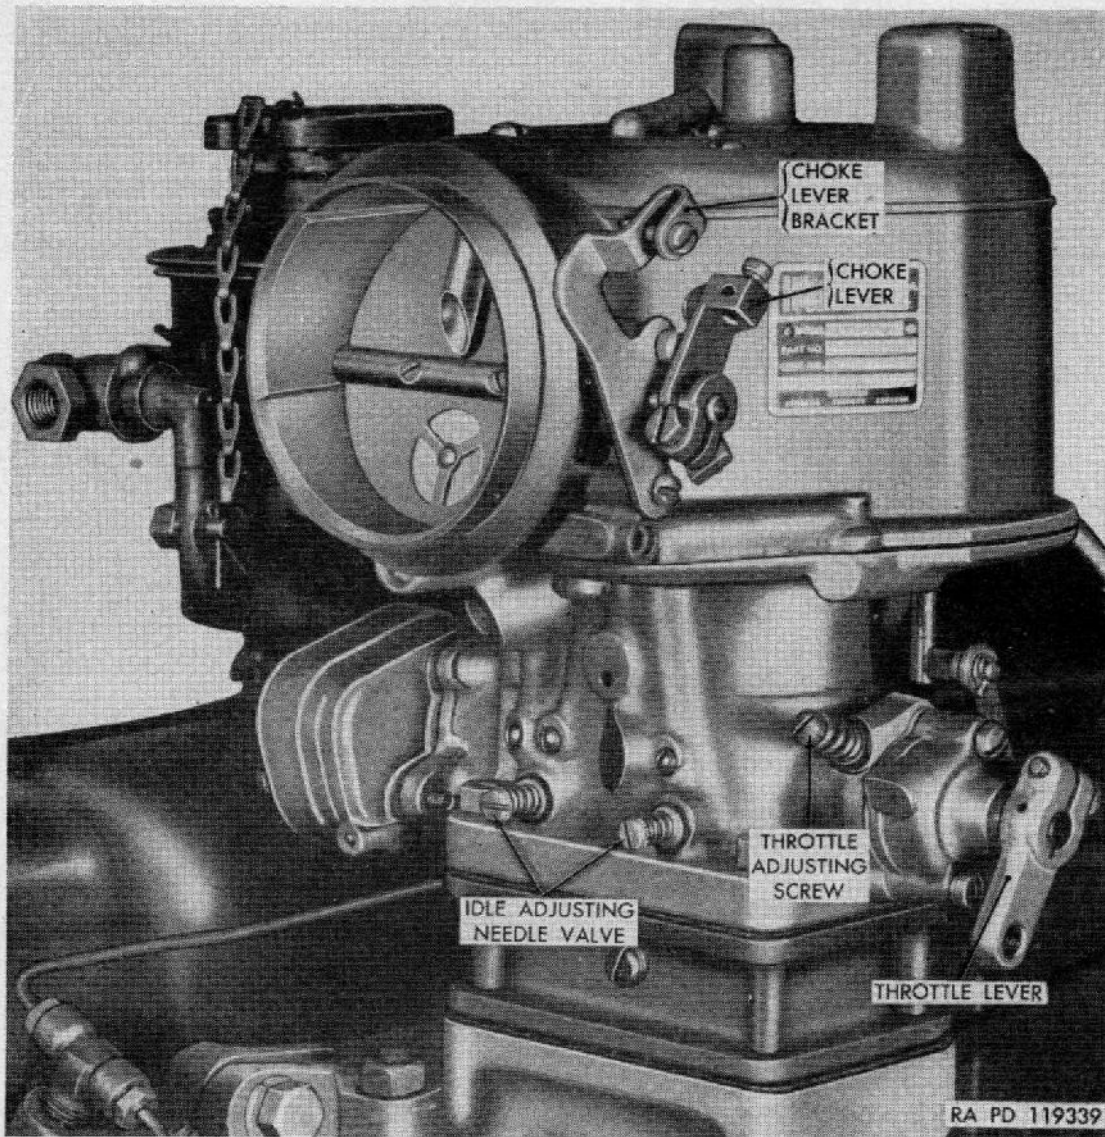
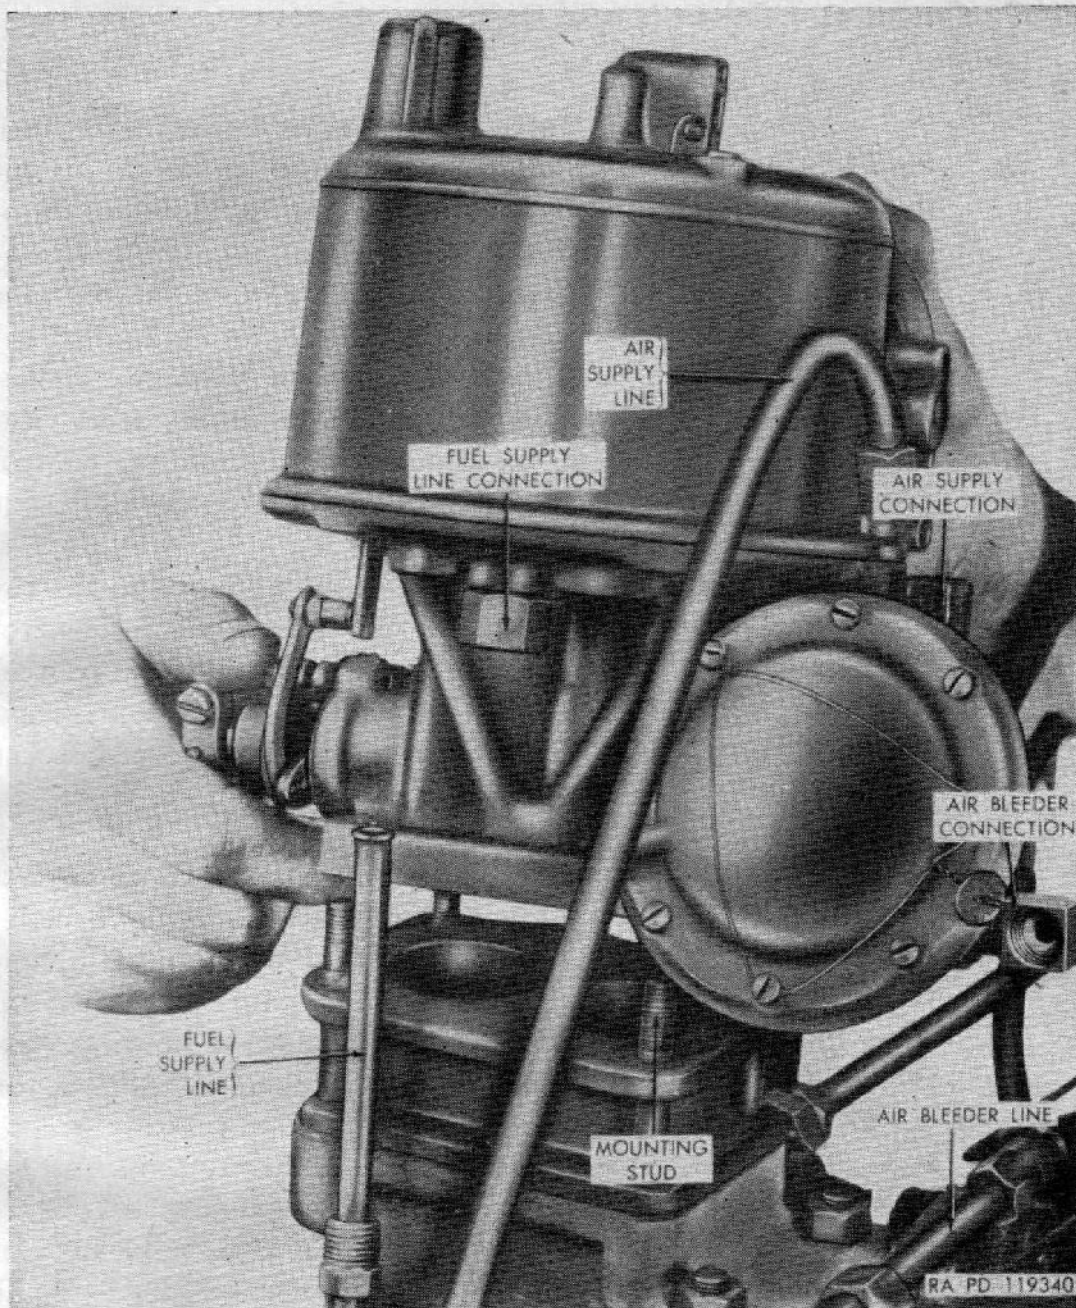
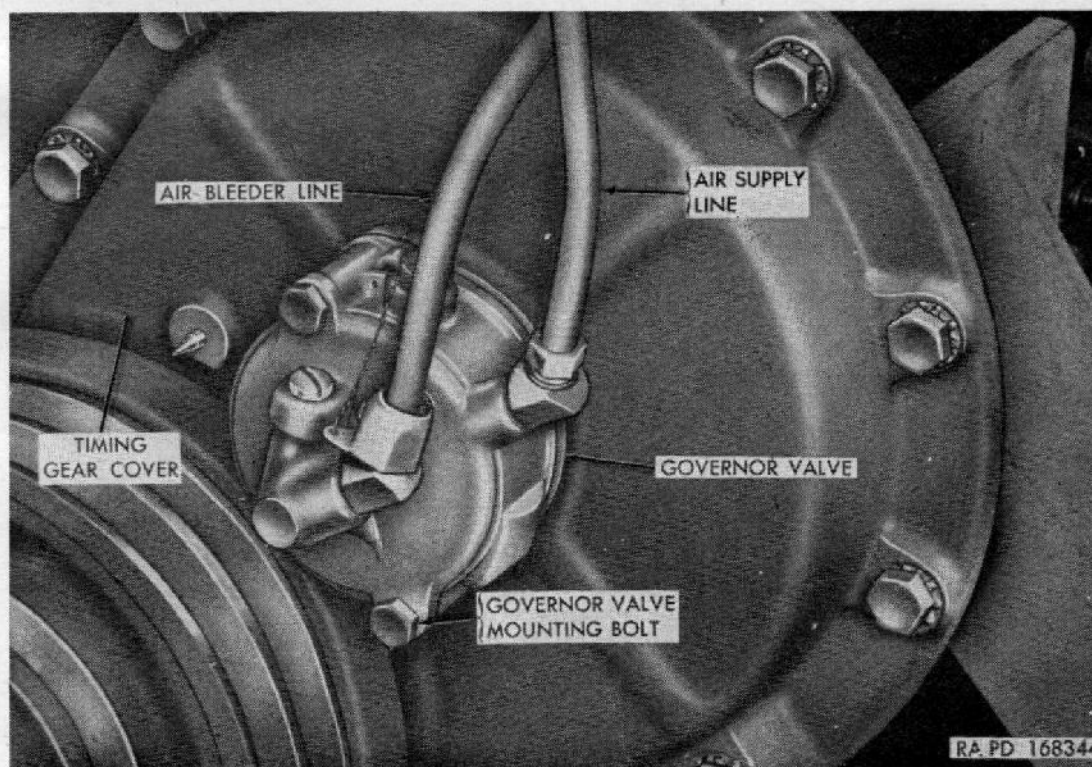

Figure 55. Carburetor idle adjustments.
Figure 56. Removing carburetor
Figure 57. Carburetor governor valve.
- (3) *Carburetor.* A double-venturi, down-draft carburetor (fig. 56) is mounted on manifold heat-control valve assembly. This carburetor, with its governor control, is designed to maintain proper fuel mixture under all operating conditions.
- (4) *Carburetor controls and linkage* (fig. 55). Carburetor controls consist of choke control assembly, throttle control, and accelerator pedal and linkage.
- (5) *Carburetor governor*. Carburetor governor consists of two assemblies; a diaphragm-operated unit connected to throttle valve, and a governor-valve unit mounted on front of timing gear cover (fig. 57).
a. ADJUSTMENT (fig. 55).
- (1) The idle adjustment should be set for highest and steadiest vacuum reading or the smoothest running and maximum idle speed. When the engine is at normal operating temperature, set idle speed at about 450 rpm by adjusting throttle adjusting screw.
- (2) To obtain a proper mixture, turn one carburetor-idle-adjusting needle valve clockwise until engine revolutions per minute drops off. Then turn needle valve counterclockwise, counting the turns until engine revolutions per minute drops off again. Midway between these two points the needle valve should be set to give the proper mixture.
- (3) Repeat the process on other needle valve. It may be necessary to repeat adjustment of both needle valves to get a proper mixture.
- b. REMOVAL (fig. 56).*
- (1) Loosen hose clamp holding air cleaner-to-carburetor hose to carburetor, until hose can be separated from carburetor.
- (2) Disconnect throttle control rod from carburetor throttle lever, and choke control assembly from carburetor (fig. 55).
- (3) Disconnect fuel supply line at carburetor, and the air supply line and air bleeder line (fig. 57) at carburetor.
- (4) Remove nuts from studs through carburetor base. Remove carburetor and discard gasket.
- c. INSTALLATION (fig. 56).
- (1) Place a new gasket on carburetor mounting, install carburetor and secure with nuts.
- (2) Connect carburetor air cleaner-to-carburetor hose at carburetor and tighten hose clamp.
- (3) Connect air supply line and air bleeder line to carburetor governor (fig. 57), and fuel supply line to carburetor.
- (4) Install choke control assembly (fig. 55), and connect throttle control rod to throttle lever.
- (1) *Adjustment.* Choke control is in proper adjustment when choke-valve plate is wide open with control knob on instrument panel (T, fig. 14) pushed in. To adjust, loosen clamping screw in choke-valve-plate lever (fig. 55). With choke-control knob pushed in, tighten clamp screw on control wire when choke-valve plate is fully open.
- (2) *Removal.* Loosen clamp screws in choke lever and choke-lever bracket (fig. 55) and pull control assembly free. Remove nut, on inside of instrument panel, holding control assembly to panel, and pull choke control assembly out through panel.
- (3) *Installation.* Insert choke control assembly through instrument panel and install nut and lock washer holding control knob horizontal, and tighten nut. Pass control assembly through dash panel and secure to choke-lever bracket and choke lever (fig. 55).
- (1) *Adjustment.* Throttle control assembly is in proper adjustment if throttle return spring returns carburetor-throttle-operating-shaft lever to idling position when throttle control knob (BB, fig. 14) on instrument panel is pushed in. To adjust assembly, loosen locking connector holding control wire to carburetor-control link. See that carburetor throttle lever (fig. 55) is in idle position and tighten locking connection against the clip attached to carburetor link.
- (2) *Removal.* Remove locking connector holding control to carburetor control link. Loosen safety nut clamping assembly in special bolt and pull assembly from dash panel. Remove nut and lock washer holding throttle knob to instrument panel and pull assembly out.
- (3) *Installation.* Insert control assembly through instrument panel and install lock washer and nut holding assembly to panel. Position knob with lettering vertical and tighten assembly. Insert free end of assembly in special bolt in dash panel and tighten safety nut. Adjust locking connection as in (1) above.
(fig. 56), and a governor valve mounted on timing cover (fig. 57). This valve is connected to carburetor governor by two air lines. To prevent unauthorized tampering with governor, locking wires are installed and sealed at all vital points: adjusting screw on valve, nut at each end of bleeder line, governor cover screws, and diaphragm cover screws. Normal allocation permits breaking of seals by third echelon only, and this will be observed for all governor adjustment and replacement. However, normal removal of carburetor, replacement of cylinder head, or cylinder head gasket, removal of exhaust manifold, or the heat valve requires breaking of seal on bleeder line nut at carburetor. Removal of throttle stop at end of run-in period (par. 11 o) requires breaking of seal on carburetor governor cover screws. These two seals may be broken and replaced by organizational mechanics when authorized.